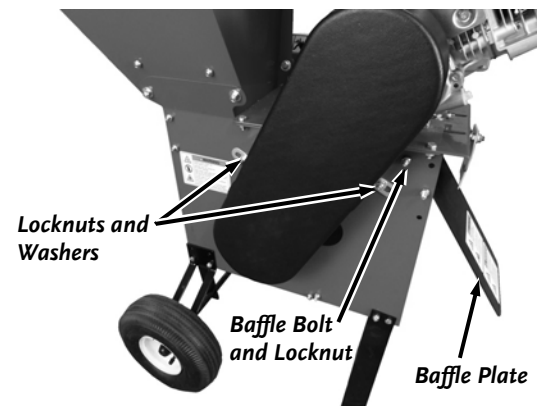

Figure 9
1. Using two 1/2" Wrenches, Remove the locknut on the Baffle Rod and set the Baffle Plate aside (**Figure 9**).